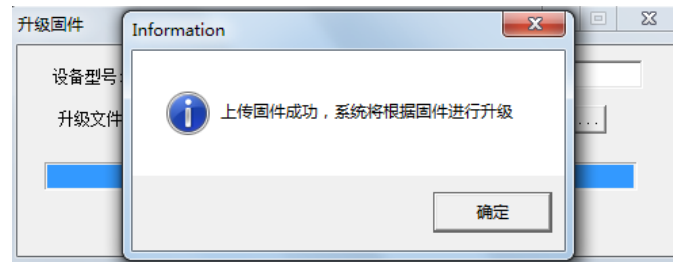

Figure 5.20 Firmware upgraded
4. After about 1 minute, the firmware can be upgraded, as shown in Figure 5.20. Wait about 30 seconds until the system is initialized and starts.